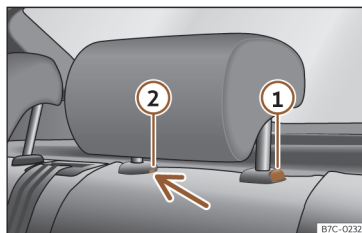

Fig. 101 Rear head restraint: removal.
- Press button >>> Fig. 101 ①, while simultaneously pressing on the safety hole ② with a flat screwdriver a maximum of 5 mm wide, and remove the headrest.